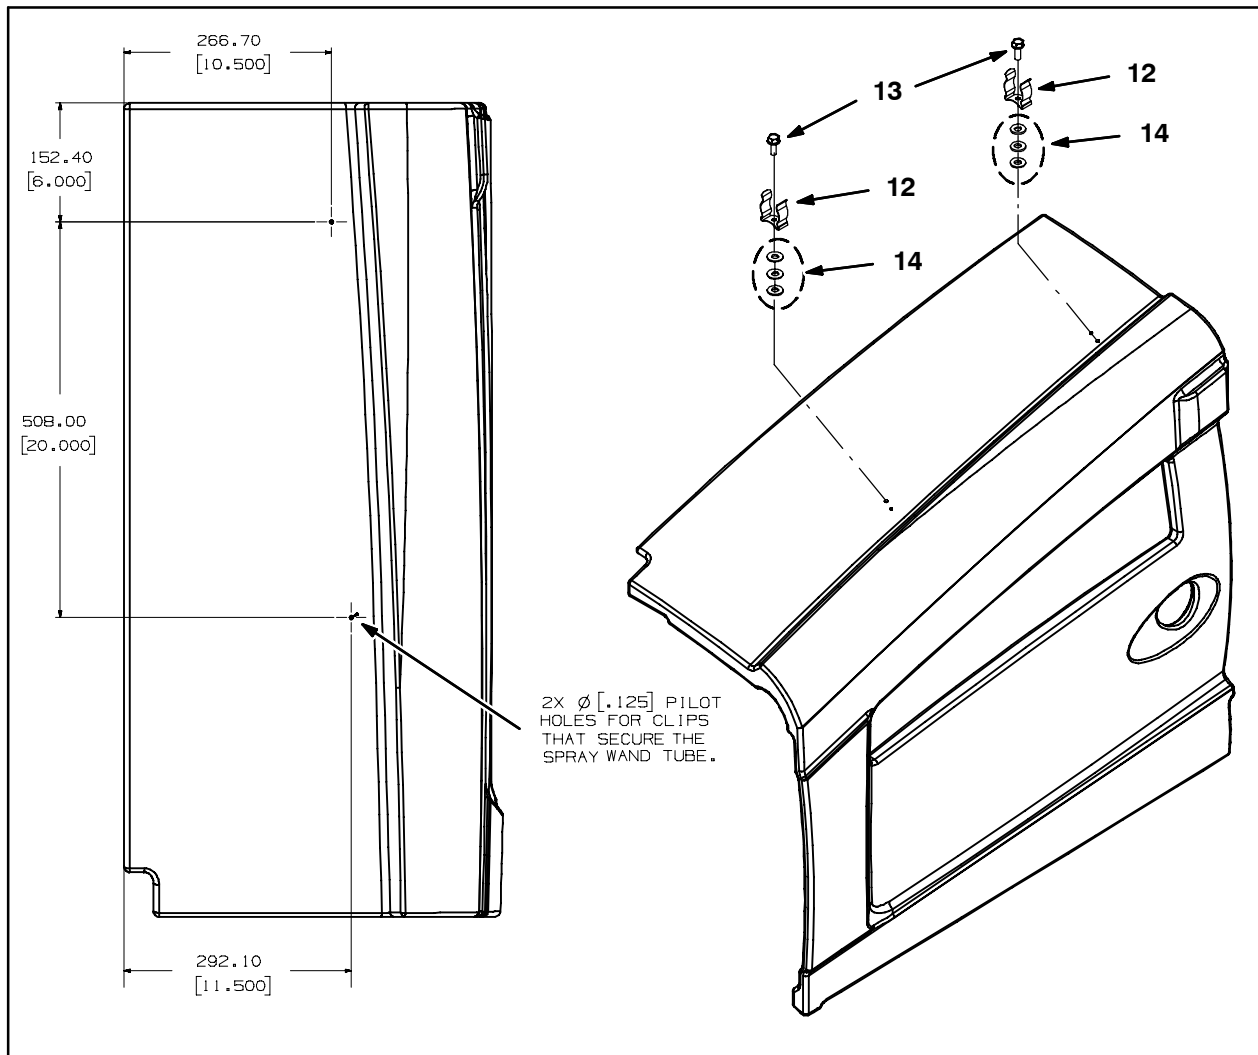

FIG. 5
23. Drill two 1/8" holes into the engine shroud. Refer to Fig. 5 for locations of holes drilled into the shroud.
24. Use a hex screw (13) and three flat washers (14) to install each clip (12) onto the engine shroud. Refer to Fig. 5.
25. Insert the wand assembly into the clips (12).